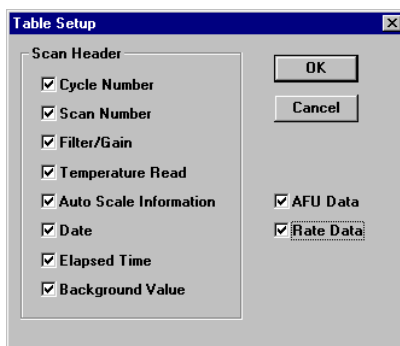

Figure 4-24 Table Setup Dialog Box
1. In the Export Setup dialog box, click **Table**. The Table Setup dialog box appears (Figure 4-24).